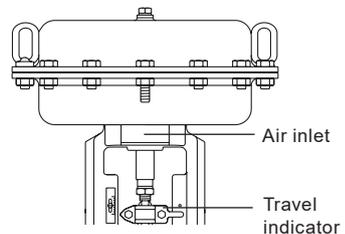

Fig. 7
2. For the pneumatic actuated control valve, remove the existing air supply and connect an independent air supply to the actuator (pressure not to exceed 85 psi g (6 bar g), allow the valve to fully open, remove the air supply from the actuator allowing the valve to close. Reconnect the original pipework (Figure 7).